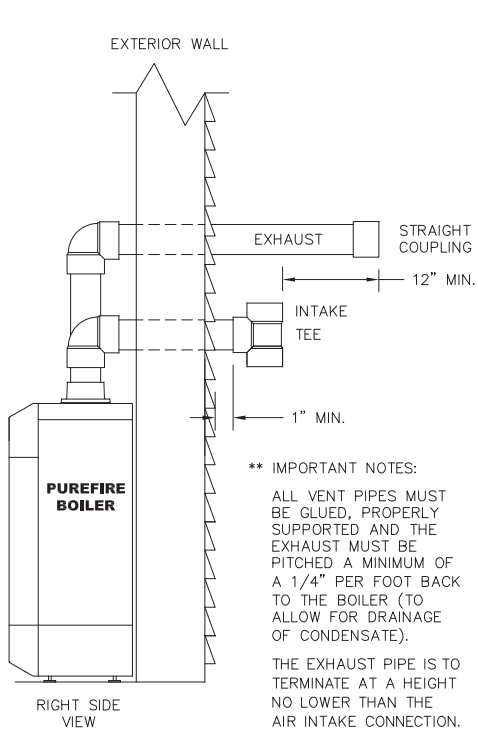

Figure 3.3: Standard Exhaust and Air Inlet Pipe Penetrations
- b. Figure 3.3 and 3.4 show approved sidewall venting configurations using the standard fittings supplied.
- f. Refer to Figures 3.3 to 3.6 for sidewall venting options using PVC or CPVC pipe.